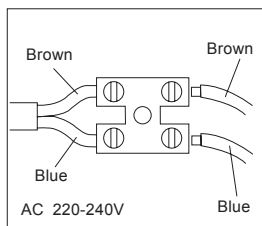

Fig. 4
3. Pass cable through cord grip and wire into terminal block (see fig. 4). Tighten cord grip ensuring all wiring is kept clear of lamp.